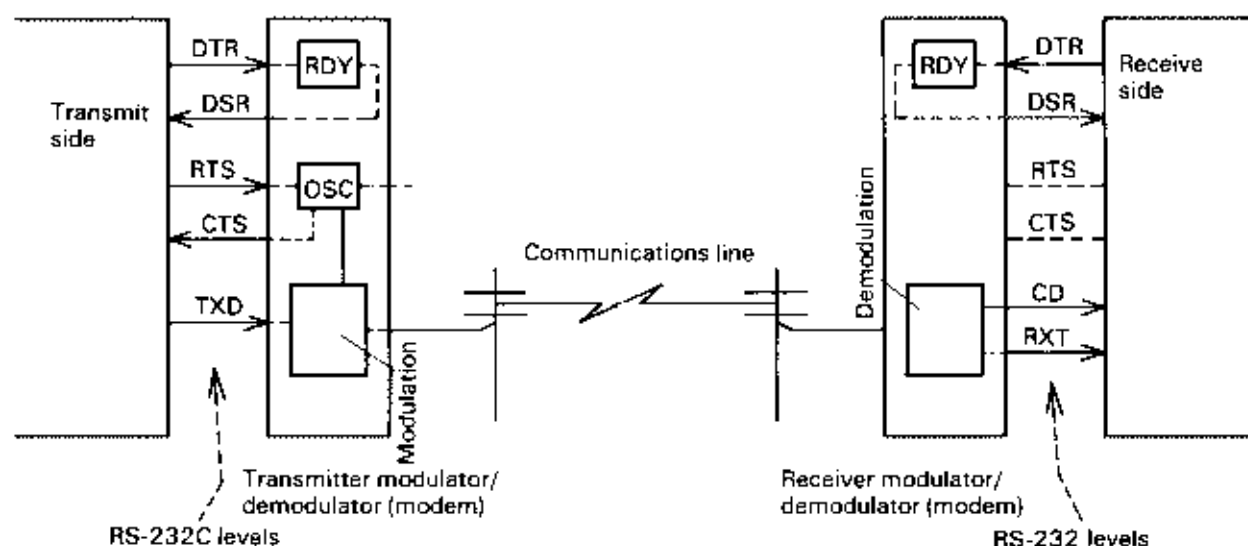

Fig. 2-108
The carrier, arriving over the communications line, is detected in the receiver modem after passing through a hand-pass filter. This state is informed to the receiver interface via the Carrier Detect (CD) signal. The interface assumes the Ready-to-Receive state and the subsequently arriving data is demodulated by the modem and is read by the receiver interface. Fig. 2-108 illustrates the signal flow, including flow over the communications line.